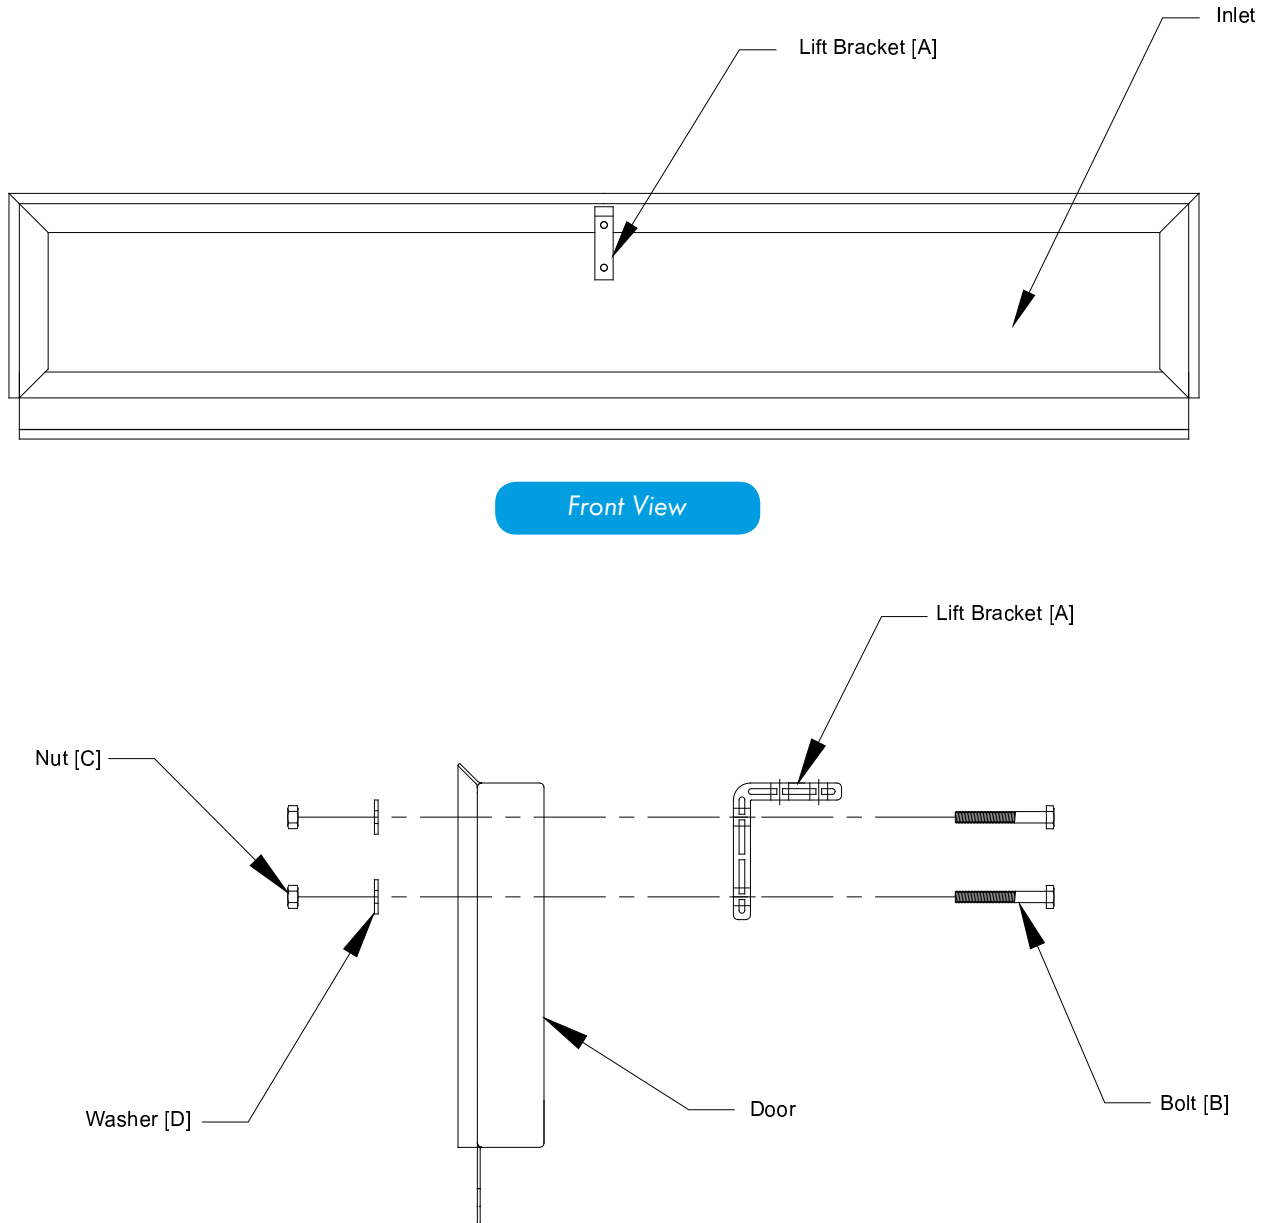

Figure 2
Using Lift Bracket [A] as a guide mark and drill (2) $\frac{3}{32}$ " holes in Vent Door and install Lift Bracket [A] flush with the top edge of baffle door and centered on the length, using (2) Bolts [B], Nuts [C] and Washers [D] (provided). Top bolt should go through top extrusion. See Figure 2.